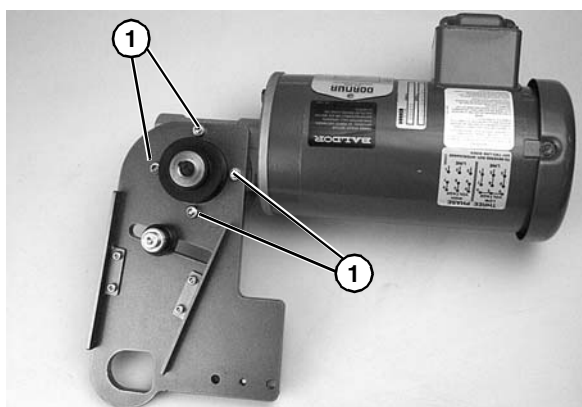

Figure 15
3. If required, change gearmotor position by removing four (4) screws (**Figure 15, item 1**). Rotate gearmotor to other position and replace screws (**Figure 15, item 1**). Tighten to 103 in-lb (12 N-m).